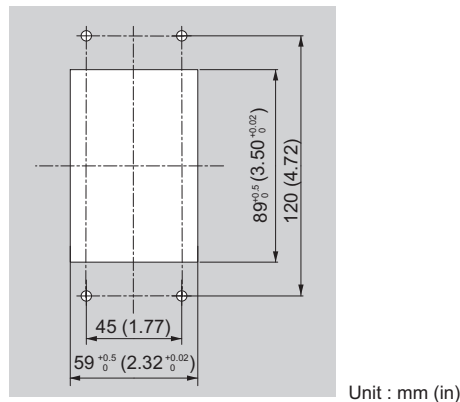

Figure 2.14 Panel Cut-Out Dimensions (Internal/Flush-Mount Installation)
1. Cut an opening in the enclosure panel for the digital operator as shown in *Figure 2.14*.